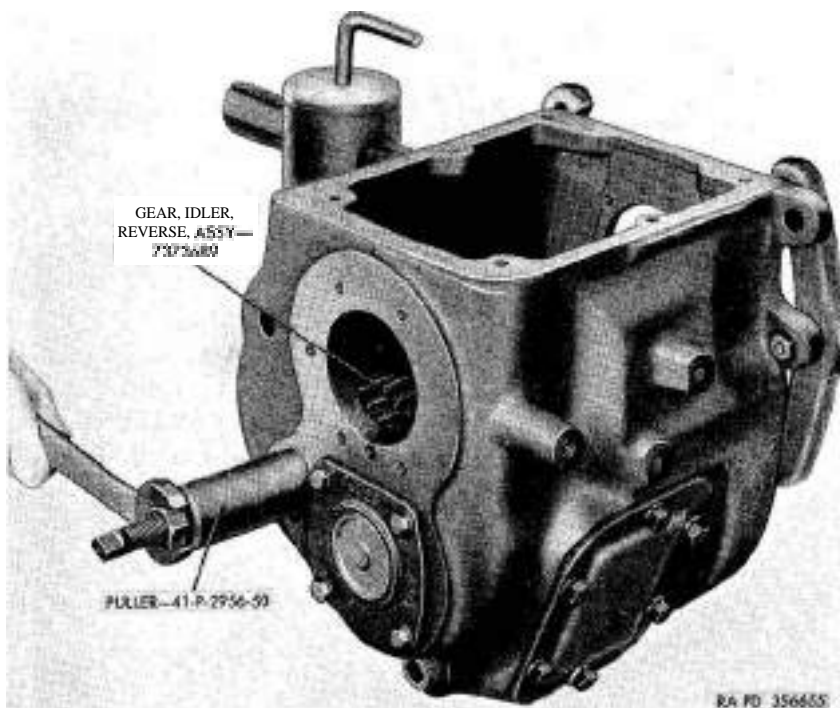

Figure 104. Removing reverse idler gear shaft.
- (1) Remove $\frac{3}{8}$ -16NC x $\frac{3}{4}$ cap screws (WW), lock $\frac{1}{4}$ -inch lock washer (XX), and reverse idler gear shaft locking plate (YY) from transmission case.
- (2) Engage screw shaft lug of puller 41—P-2956-50 (fig. 104) with slot in reverse idler gear shaft. Assemble puller hous-